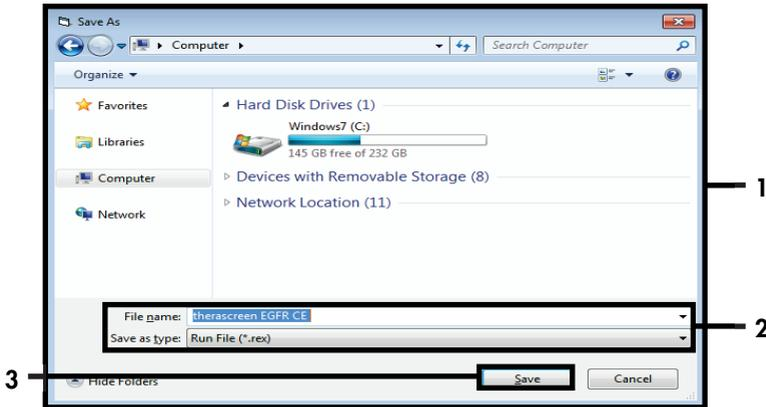

Figure 6. "Save As" window (1). 2 = "File Name" and "Save as type" fields; 3 = "Save."
17. Select an appropriate file name and save the PCR run as a *.rex run file to the selected location. Click **Save** (Figure 6).